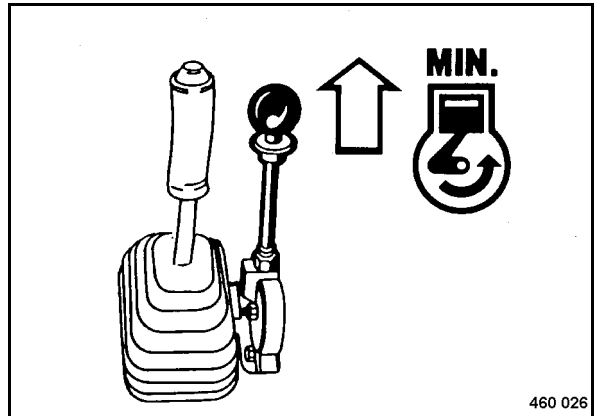

Fig. 47
- Pull the locking plate up and shift the throttle lever (Fig. 47) back to position "MIN".